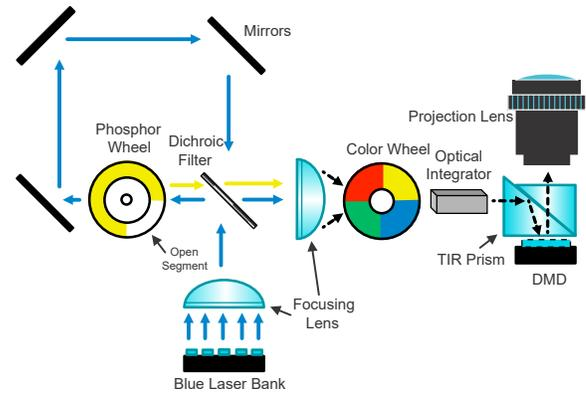

Figure 5. Simplified optical module diagram.
- **DLP optical module** – The DLP chip, along with its associated laser-illumination sources, optical elements, and necessary mechanical components are combined into a compact and rugged assembly known as an optical module or light engine (see **Figure 5**). The optical module is the core display component of the system. Optical modules can be of various sizes depending on the application and requirements. In general, the higher the brightness, the larger the optical module due to larger illumination sources, optics, DMD, and thermal management in the form of heat sinks and fans.